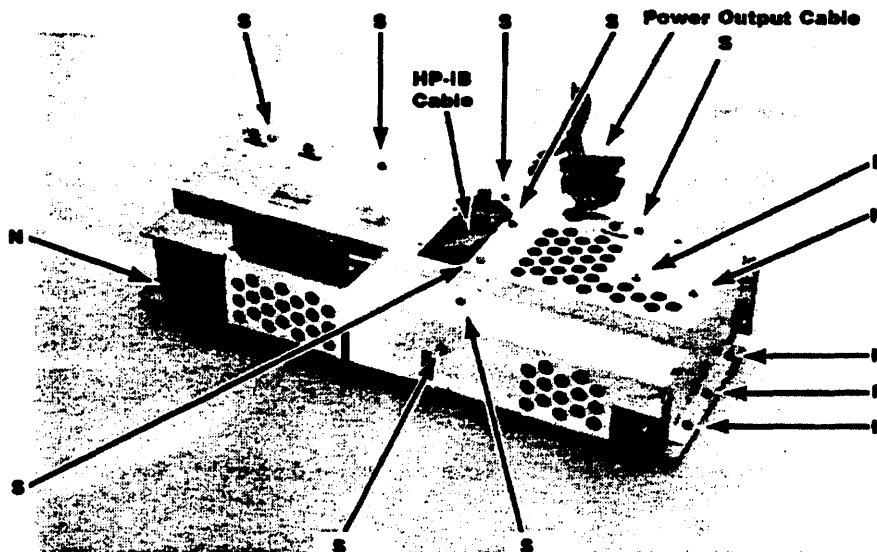

Figure 6-30a. Base Assembly Cover Screws and Nuts
- 15. The base assembly should now appear as shown in figure 6-30a. Remove the eight screws and six nuts holding the cover to the base assembly.